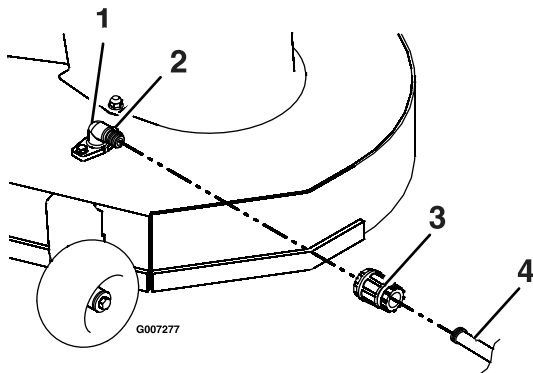

Figure 52
3. Attach the hose coupling to the end of the mower washout fitting, and turn the water on high (Figure 52).